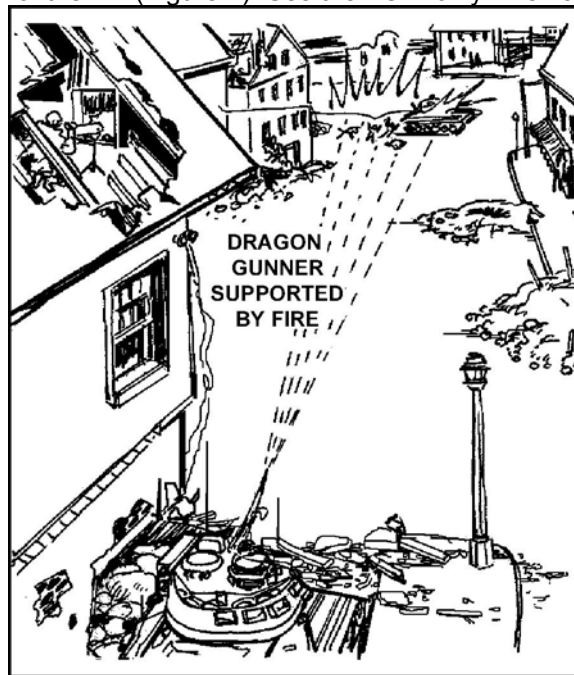

Figure 1. Dragon position supporting BFV.
6. Use the 25-mm automatic gun and the 7.62-mm coax machine gun more than the TOW, due to the close engagement ranges on urban terrain. The antitank capability of the M2 is degraded by the short ranges characteristic of urban terrain. Therefore, Dragons and LAWs/AT4s will be used more frequently. Place Dragons and LAWs/AT4s where they can support an M2, but not attract enemy attention to the location of the M2 (Figure 1). Use the TOW only when absolutely necessary.